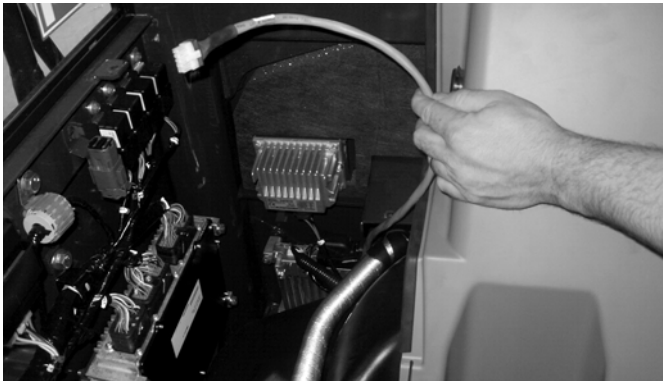

FIG. 76
15. Pull GLC2200 power cable routed through the access grommet in Step 12, through open cover as shown in FIG. 76.